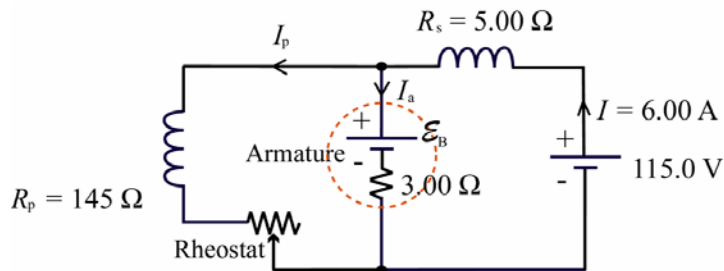

Figure 34-20: Circuit diagram for the compound wound short shunt motor.
- (a) Draw the circuit diagram of the motor using the equivalent circuit for the rotor (see Fig. 34-20).